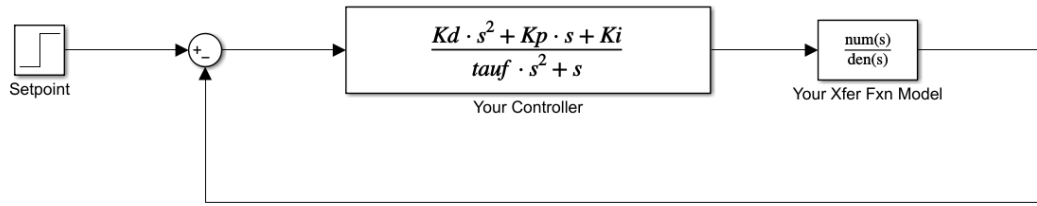

Figure 1: Linear feedback control of transfer function model
4. Build the remainder of the simulation as shown in Figure 1. Note the following points: